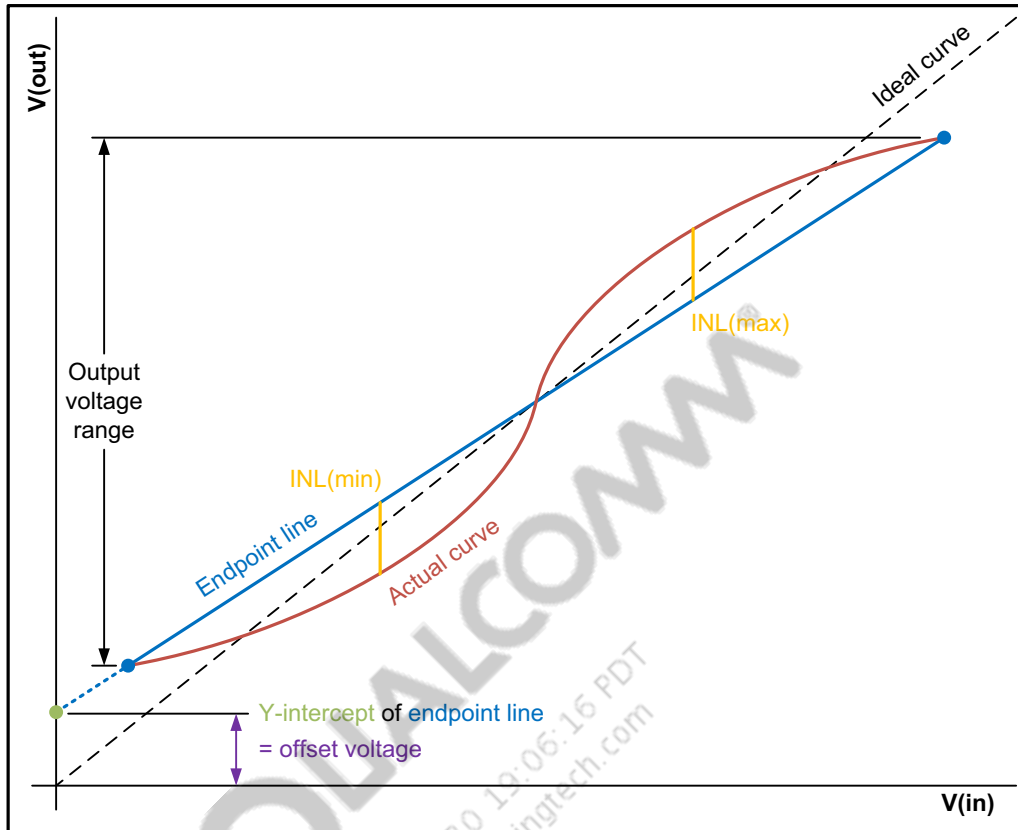

Figure 3-3 Multiplexer offset and gain errors
- Multiplexer offset error, gain error, and INL are measured, as shown in Figure 3-3. Supporting comments include: